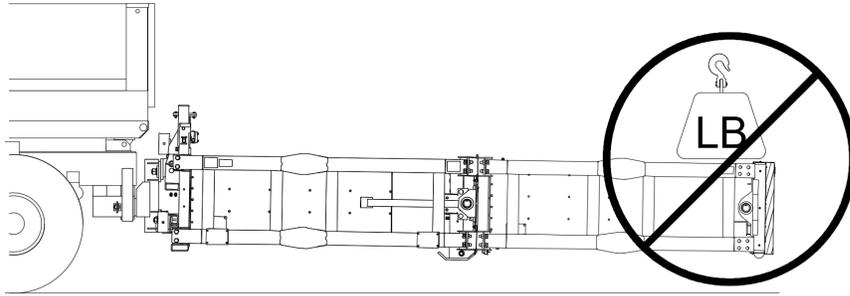

Figure 4
3. The SS180[®] M is intended to support its own weight and dissipate the kinetic energy of errant vehicles per MASH criteria. Do not drag the TMA or place anything on its top or damage will result. Do not sit, stand, or lean on any part of the TMA (Figures 4 & 5).